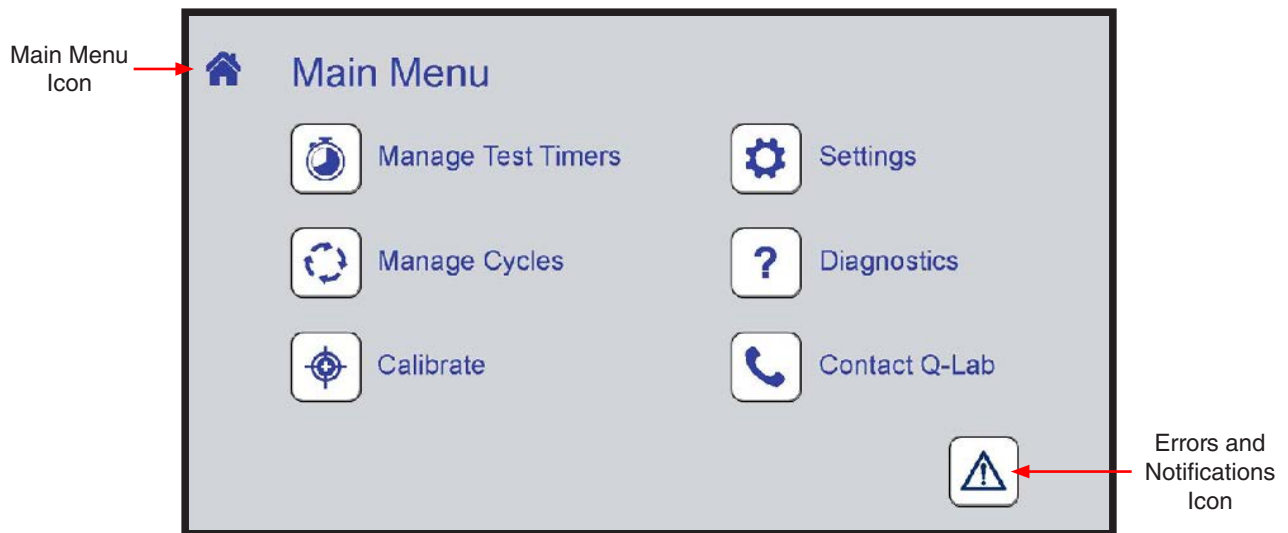

Figure 10.3: Main Menu screen.
- The Main Menu is the home display for the menu screen (Figure 10.3).